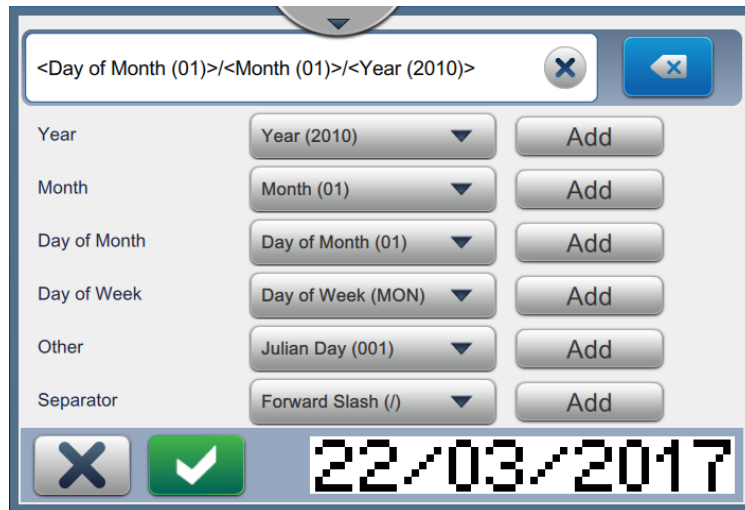

Figure 5-10: Date Set Up Screen
2. Select the required format from the list of options (Year, Month, Date of Month, Day of Week, Other and Separator) as shown in Figure 5-10. Each of these options has a number of layouts which are selectable from drop down list, example as shown in Figure 5-11.
3. Once the required format is selected, touch the  button to move to the date format. The display will show the date format created as shown in Figure 5-10.